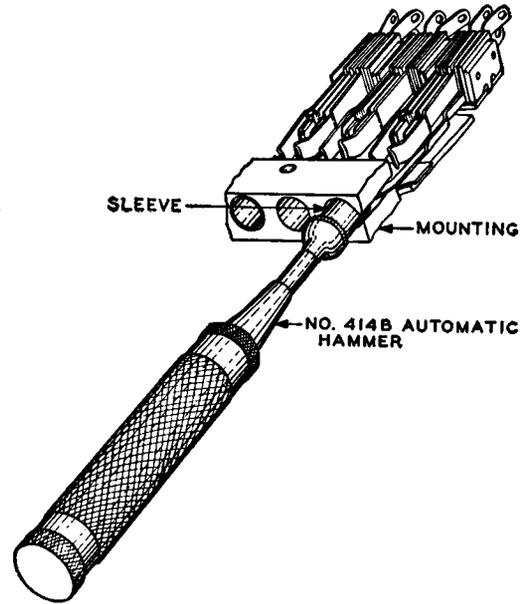

Fig. 8—Method of Driving Sleeve Into Mounting with No. 414B Automatic Hammer
3.15 Place the No. 414B automatic hammer in the sleeve and carefully guide the sleeve into the opening in the face of the mounting as shown in Fig. 8. Do not turn or twist the sleeve in doing this. Push on the hammer until the automatic release operates. Repeat this operation until the sleeve is flush with the face of the mounting.